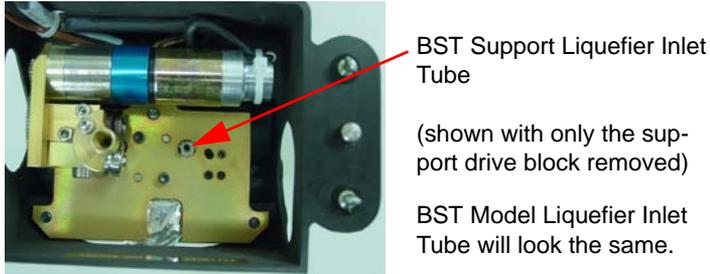

Figure 23: BST - Inspecting the liquefier inlet tubes
- A. (**For BST**) Inspect the liquefier inlet tubes (see Figure 23).